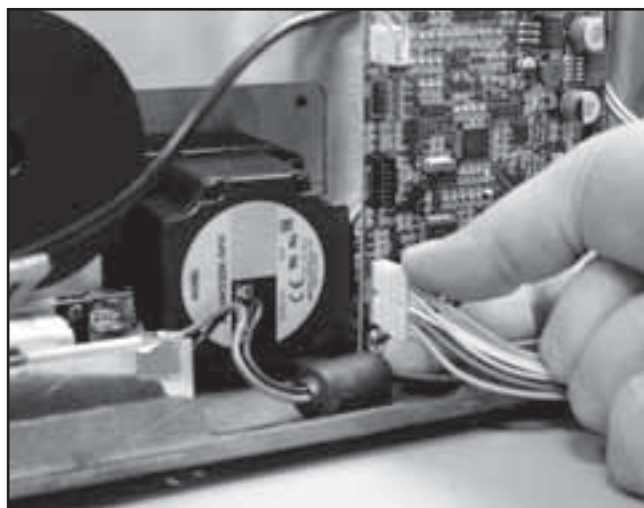

FIGURE 6.56
4. Disconnect the Motor Harness from the Motor Control Board. See Figure 6.56.